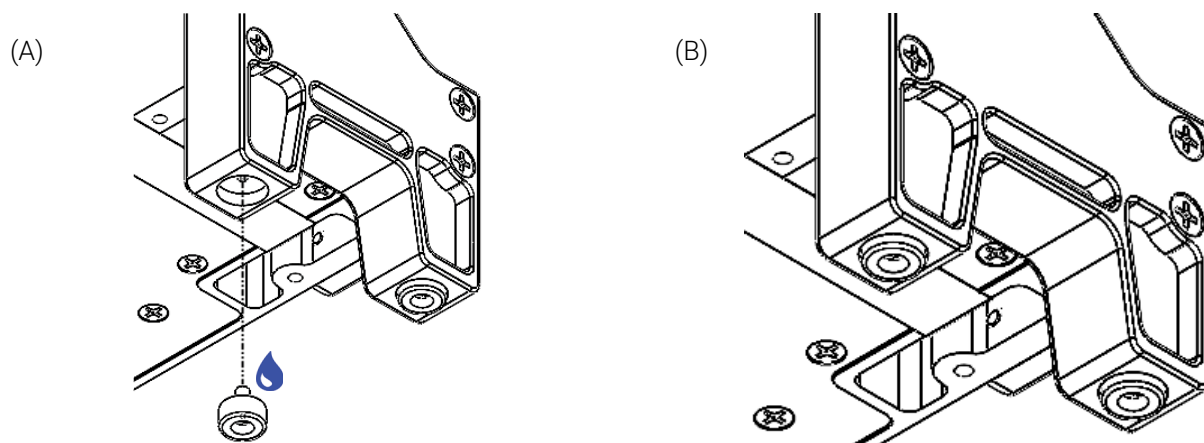

Figure 5: Installing the rubber replacement foot
3. Install the replacement foot coated with medium strength thread lock adhesive (💧) and tighten using a flat head screwdriver (Figure 5).